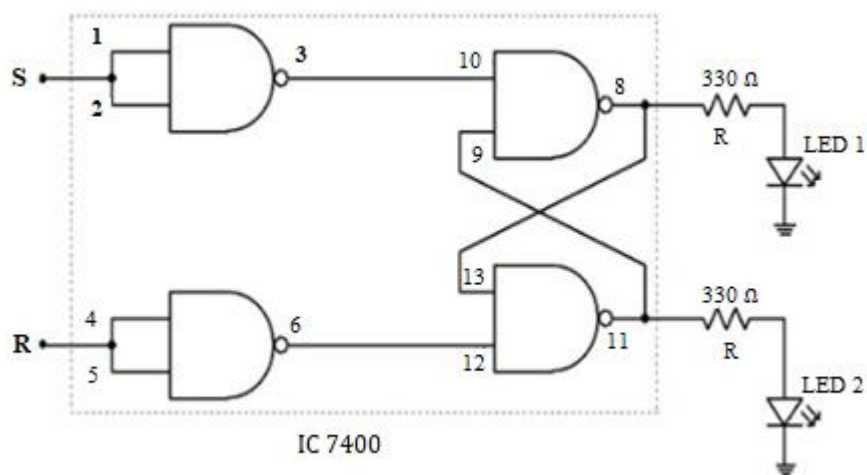

Figure 8.3 Circuit diagram of SR flip-flop
5. Make the connections as per the circuit diagram given in Figure 8.3.